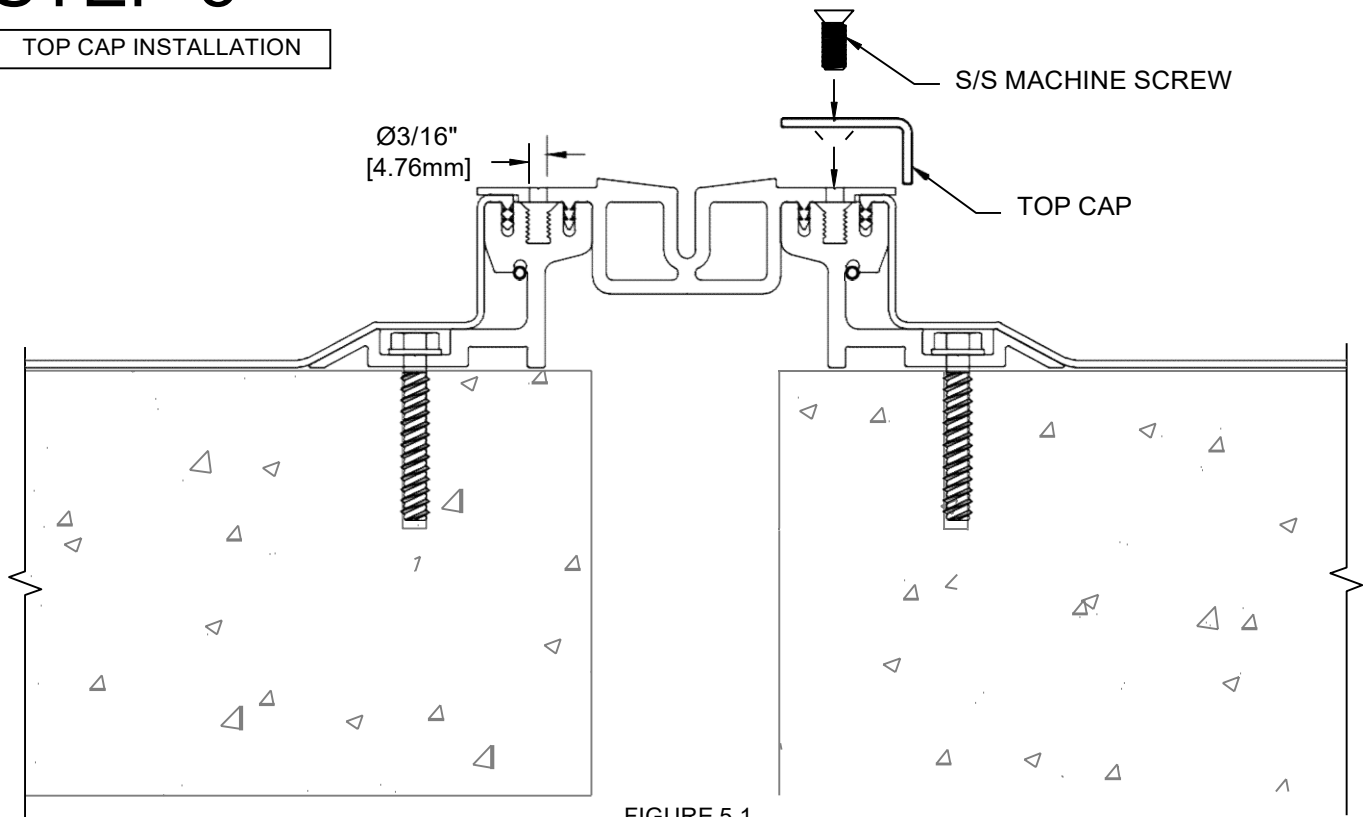

FIGURE 5.1
- 5.3) Temporarily remove the Top Cap from the assembly and create $\text{Ø}3/16''$ [Ø4.8mm] clearance holes for the PS Supplied Stainless Steel Machine Screws. (See Figure 5.1)
- 5.4) Reposition the Top Cap on the system and fasten with the PS Supplied Machine Screws. Before tightening screws completely apply a silicone caulk (by others) between the head of the PS Supplied Machine Screws and the countersunk holes in the Top Caps. Be sure to keep the supplied Machine Screws as straight as possible when installing. Failure to do so could result in cross-threading, which will impair the system. (See Figure 5.1)